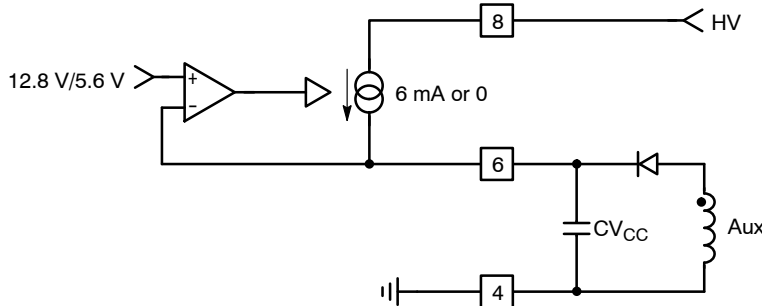

Figure 16. The Current Source Brings  $V_{CC}$  Above 12.8 V and then Turns Off
12.8 V), the current source turns off and no longer wastes any power. At this time, the  $V_{CC}$  capacitor only supplies the controller and the auxiliary supply is supposed to take over before  $V_{CC}$  collapses below  $V_{CC_{min}}$ . Figure 16 shows the internal arrangement of this structure.